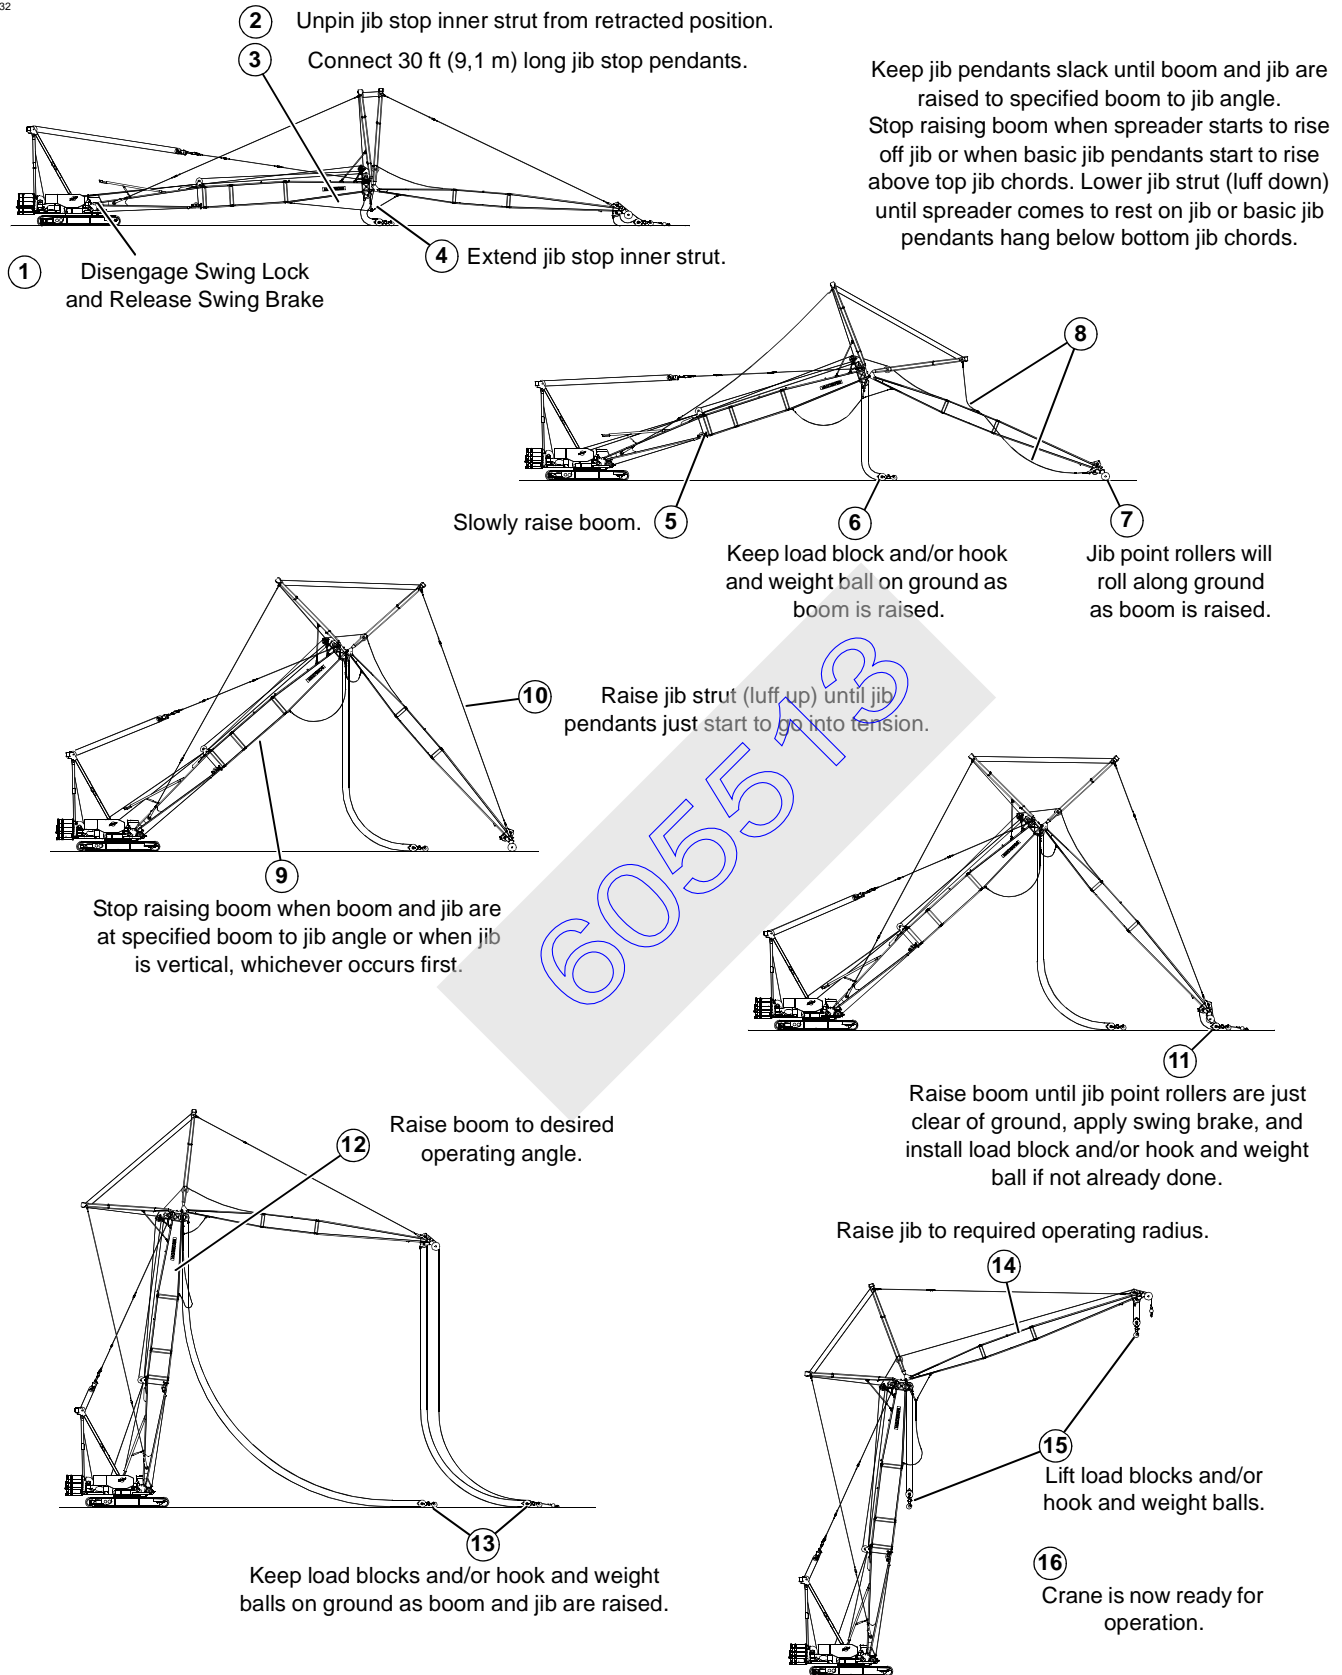

FIGURE 4-16
4. If boom and jib will be raised using **Jack-Knife Method**, proceed as follows (Figure 4-16):